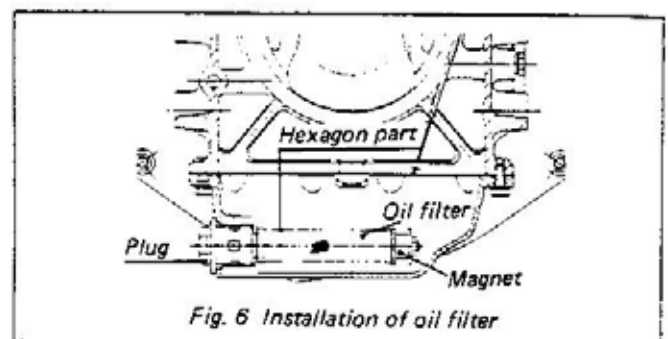

Fig. 6 Installation of oil filter
**(2) Lubrication System**
- The oil filter is equipped inside of the crankcase as shown in Fig. 6.